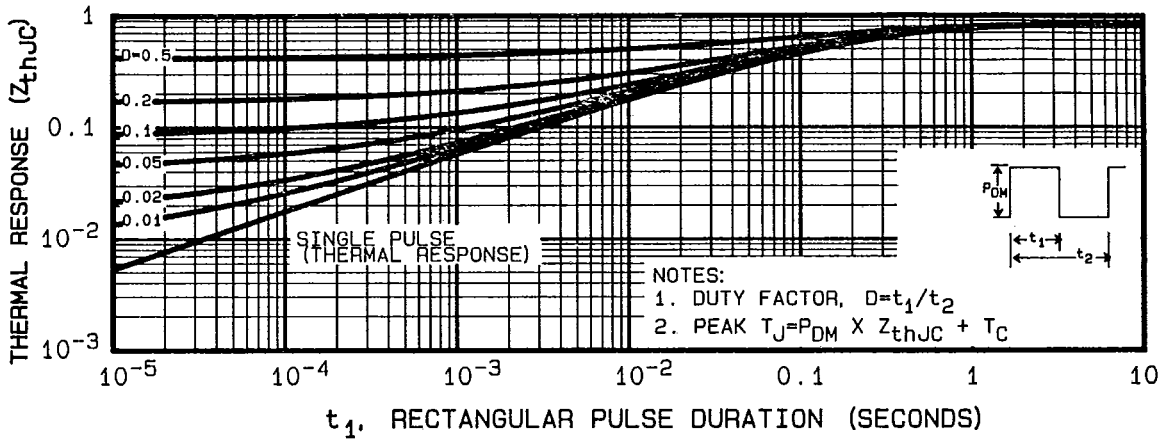

Fig. 17 — Maximum Effective Transient Thermal Impedance, Junction-to-Case Vs. Pulse Duration
② Repetitive Rating; Pulse width limited by maximum junction temperature (see figure 17)
③ @ $V_{DD} = 50V$, Starting $T_J = 25^\circ C$, $L = 20$ mH, $R_G = 25\Omega$, Peak $I_L = 10A$.
④ $I_{SD} \leq 10A$, $di/dt \leq 130$ A/ μ s, $V_{DD} \leq BV_{DSS}$, Suggested $R_G = 6.2\Omega$
⑤ Pulse width $\leq 300 \mu$ s; Duty Cycle $\leq 2\%$